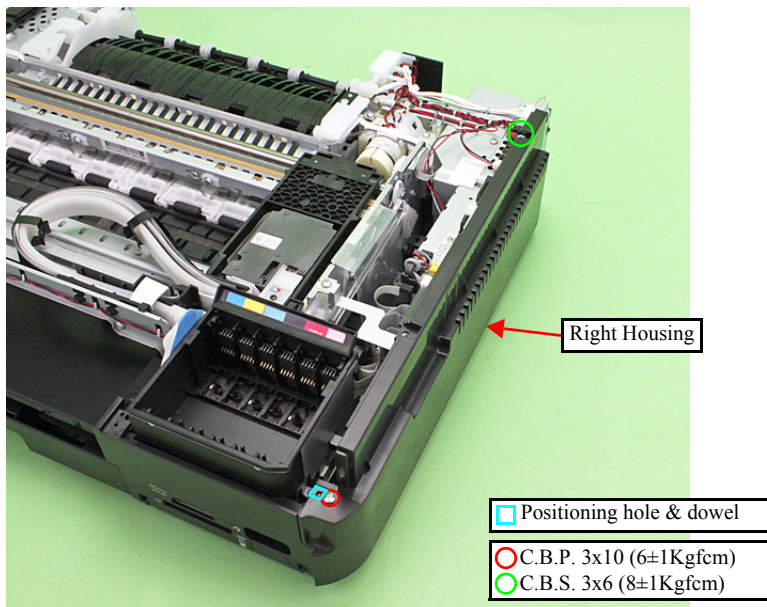

Figure 9-19. Removing the Right Housing (1)
2. Release the dowel (x1) on the front side (see Fig. 9-19), hook A (x3) and hook B (x1) on the bottom of the Right Housing, and remove the Right Housing in the direction of the arrow.